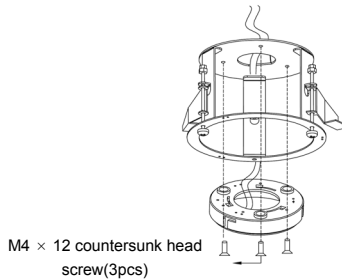

Figure 20
4) Fixup the "installation pedestal" with the embedded mount (Figure 20).